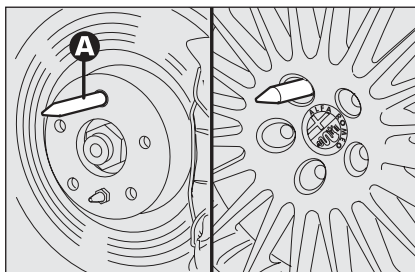

fig. 13
- ☐ tighten pin **A-fig. 13** in one of the holes of the wheel hub fastening bolts;
- ☐ loosen pin **A-fig. 13** and tighten the last fastening bolt;